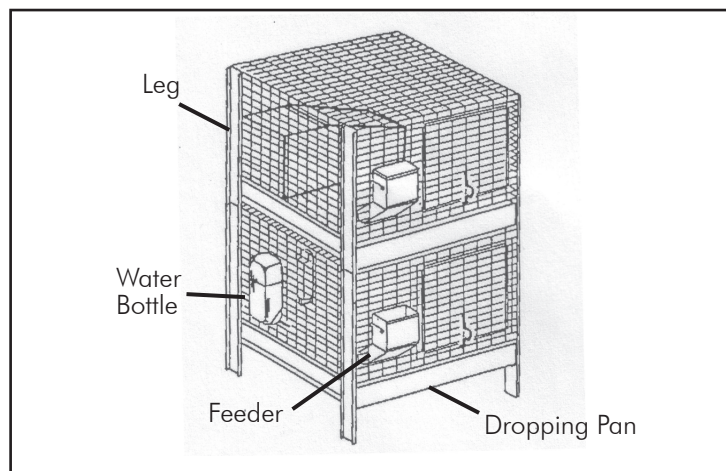

Figure 9
16. Install the feeder, water bottle, and dropping pan as shown in Figure 9.